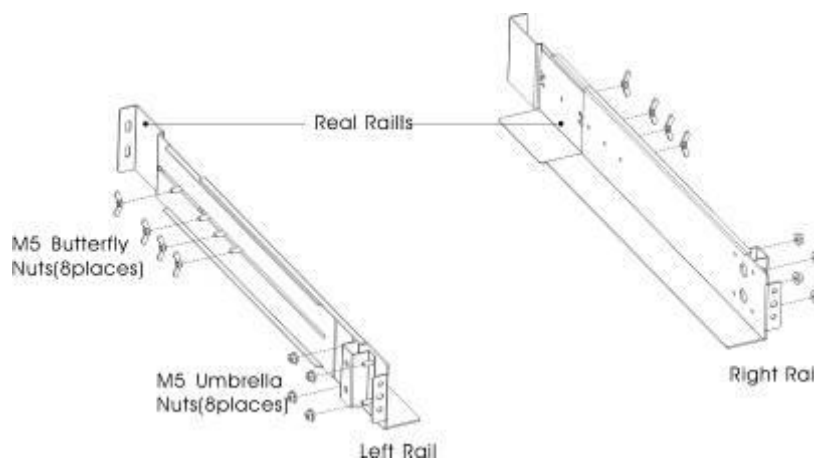

Figure 1 Securing the Rails
(1) To install the rail kit
- a) □ Assemble the left and right rails to the rear rails as shown in Figure 1. Do not tighten the screws.
c) Tighten four M5 Umbrella Nuts in the side of rail assembly (see Figure 1).